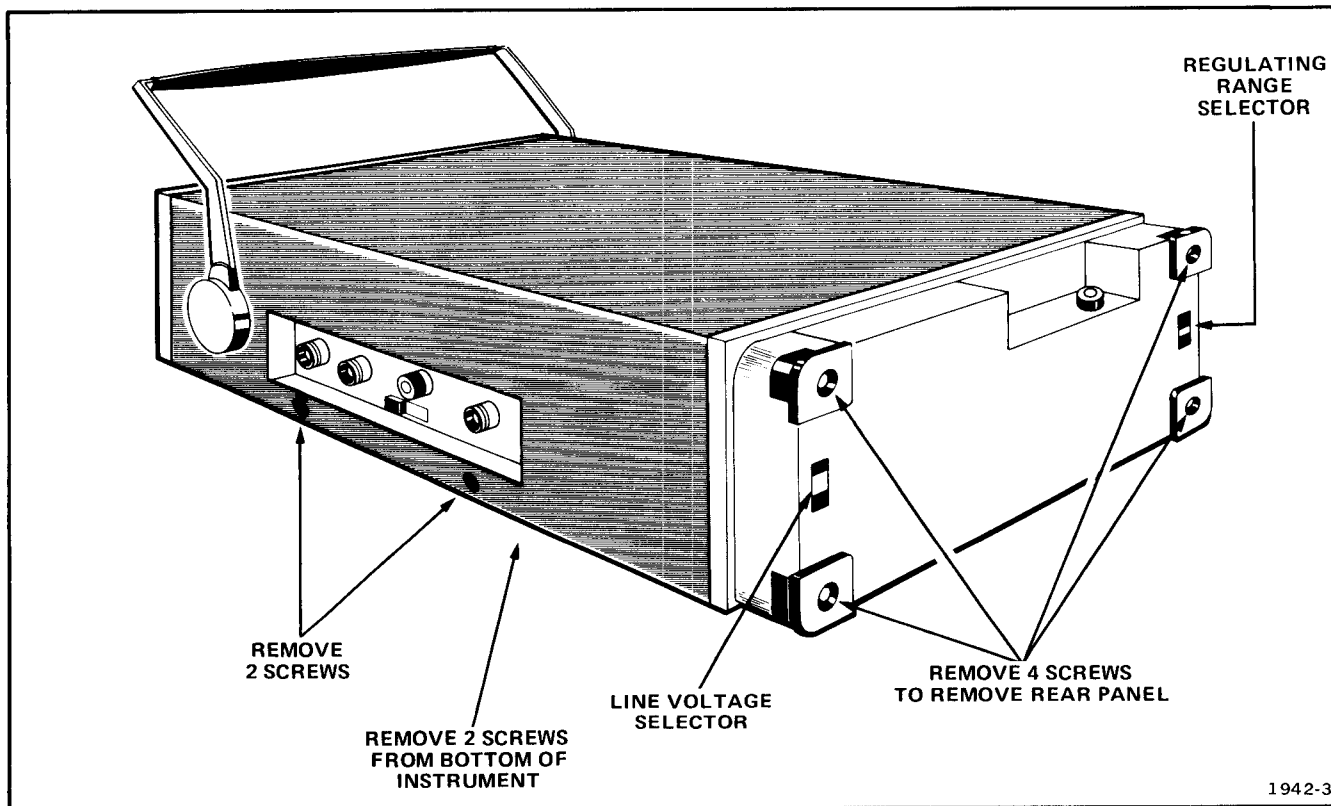

Fig. 6-1. Cabinet removal.
1. Loosen the four screws holding the cabinet feet (cord wrap) and remove the cord-wrap feet (see Fig. 6-1).